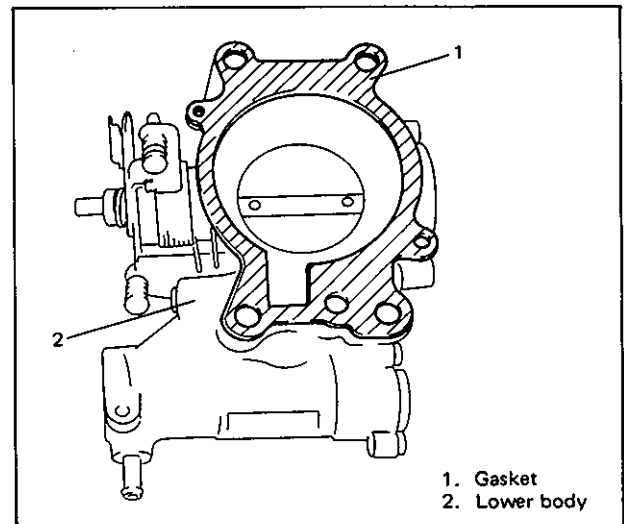

Fig. 6E-119 Installing Gasket
3. Tighten screws indicated by "1" in Fig. 6E-117 to specified torque.